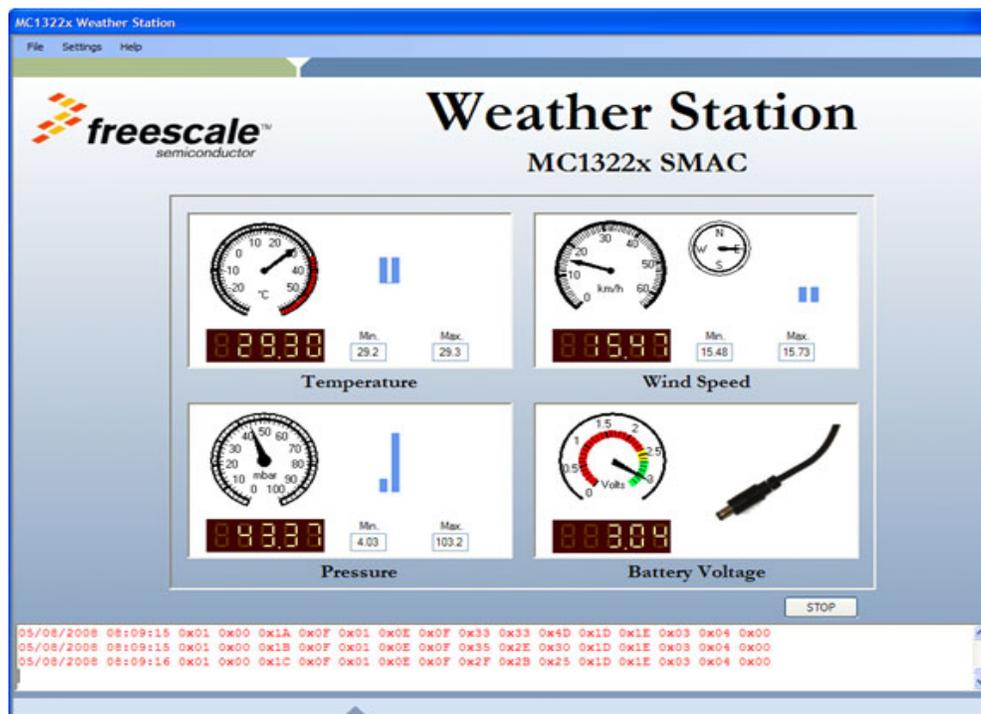

Figure 9-7. Weather Station Main Window
The Weather Station main window appears as shown in Figure 9-7.
The Weather Station PC application displays various weather related levels and values and also displays the received frames at the bottom of the main window. As shown in Figure 9-7, the bottom of the main window shows the data packet sent by the Sensor Node to the Network Node. The data packet is divided into fifteen bytes of information with a header and a tail. However, the tail (the last byte) is not displayed. Figure 9-11 shows the data structure details.
1. Launch the Weather Station PC application. The Weather Station main window appears as shown in Figure 9-7.